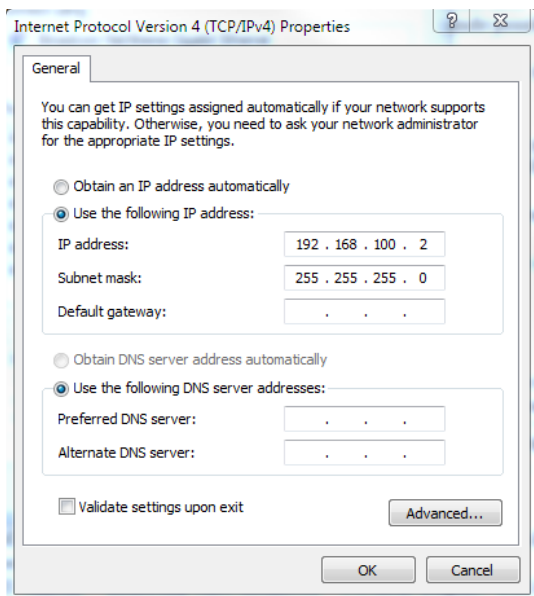

Fig. 2-39, Internet Protocol (TCP/IP) Properties Screen, Windows® 7
7. The Internet Protocol (TCP/IP) Properties dialog box will open (**Fig. 2-39**). Select "Use the following IP address". Enter the values as shown (i.e. IP address 192.168.100.2 and subnet mask 255.255.255.0). Record the existing IP address and subnet mask in order to later return the computer to its original state.
Click the General menu to access power supply and individual battery voltage values. Important parameters such as current alarm status, inverter status and tamper status can be quickly verified on this page. Additional power supply parameters can be viewed and configured on the power supply page located in the Advanced Configuration menu, see Fig. 2-39.